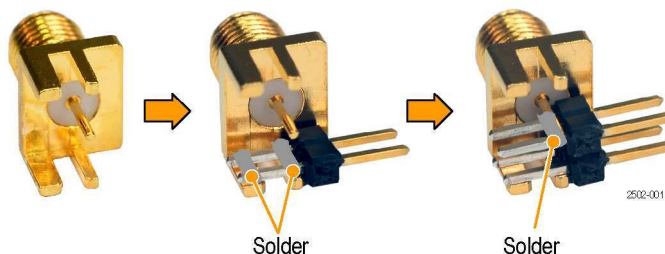

Figure 6: Solder square pins to the SMA connector
1. Arrange one SMA connector as shown. (See Figure 6.)